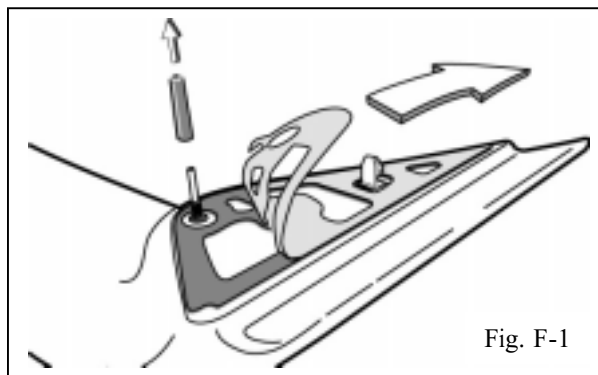

Fig. F-1
1. Remove the vinyl covers from the two (2) threaded M6 studs. (Fig. F-1)
2. Remove the plastic liners from the two (2) outboard adhesive pads. Be careful not to touch or allow any contaminants to come into contact with adhesive pads. (Fig. F-1)